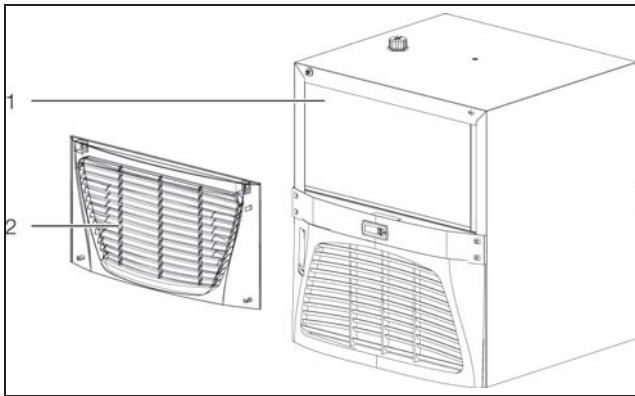

Fig. 60: Cleaning the condenser (shown here: 3320.6xx and 3334.6xx)
- Remove the louvred grille (fig. 60, item 2) on the front of the chiller.
- Clean the condenser (fig. 60, item 1) with compressed air.